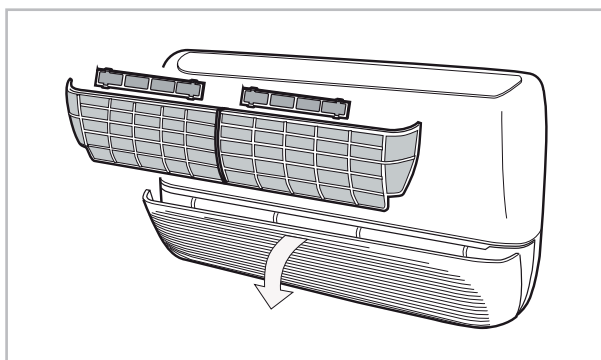

Fig. 54: Fold the guard forwards
2. ➤ Open the front side of the unit by folding the grill down/forwards (Fig. 54).
3. ➤ Pull the filter out in an upwards direction (Fig. 54).